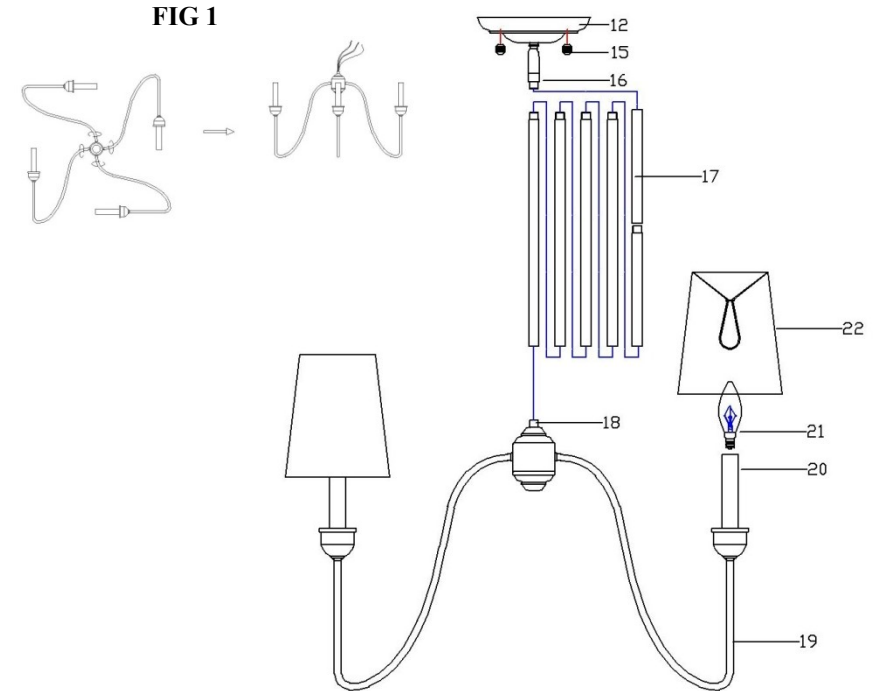

FIG 1
1. Turn the ARMS clockwise to right position (Fig. 1), Thread the CENTER RODS(17) onto the NIPPLE(18) till tight, thread the SWIVEL(16) onto the CENTER ROD(17) till tight.
2. At the center of the BACK PLATE(2) there are eight perforated slots. Knock out the set matches your OUTLET BOX (1).
3. Screw the FIXTURE MOUNTING SCREWS (13) into the BACK PLATE (2) and thread the HEX NUTS (14) onto the FIXTURE MOUNTING SCREWS (13), as shown. Secure the position of the FIXTURE MOUNTING SCREWS (13) by tightening the HEX NUTS (14) against the BACK PLATE (2).
4. Carefully pass the power supply (6&8) wires and the SUPPLY GROUND WIRE (5) through the center hole of the BACK PLATE (2). Secure the BACK PLATE (2) to the OUTLET BOX (1) with MOUNTING SCREWS (3).
5. Attach the BLACK SUPPLY WIRE (8) to the SMOOTH (or BLACK) FIXTURE LEAD WIRE (9) by using the WIRE CONNECTOR (10). At the same manner, attach the WHITE SUPPLY WIRE (6) to the RIBBED (or WHITE) FIXTURE LEAD WIRE (7). Loop the FIXTURE GROUND WIRE (4) around the GROUND SCREW (11) of the BACK PLATE (2). (Note: Be sure to provide an extra 3" length of the FIXTURE GROUND WIRE (4) for connection to the SUPPLY GROUND WIRE (5).) Tighten the GROUND SCREW (11). Connect the remaining FIXTURE GROUND WIRE (4) to the SUPPLY GROUND WIRE (5) using a WIRE CONNECTOR (10). Place wiring and connections inside the OUTLET BOX (1).
6. Place the CANOPY (12) onto the FIXTURE MOUNTING SCREWS (13), and secure it into place using the DECORATIVE NUTS(15) provided.
7. Screw light bulbs into the sockets and make sure they do not exceed the maximum wattage specified on the fixture's wattage rating label, **MAXIMUM 40W**. Place the SHADE(22) over the BULB(21),